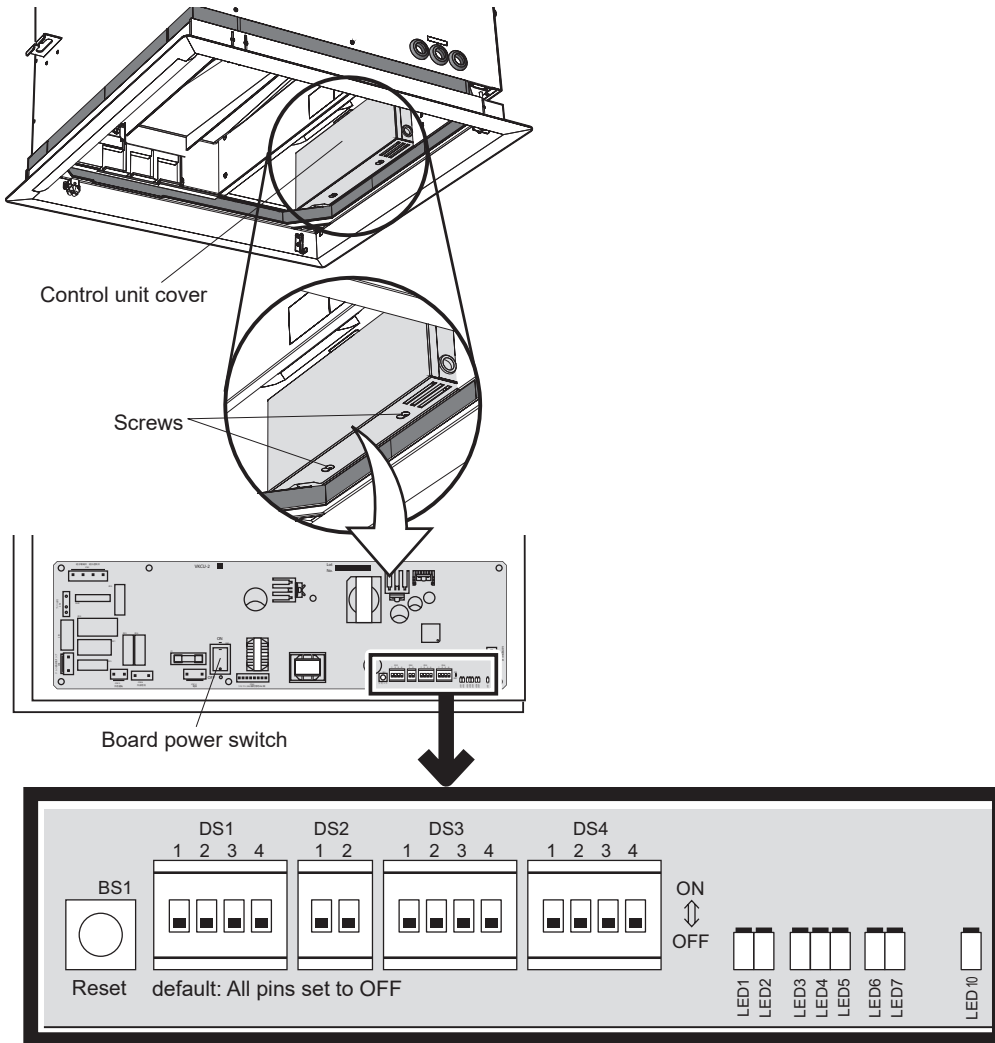

Figure 5: DIP switch location (cover removed)
2. Adjust the DIP Switch DS1 settings on the humidifier. Refer to Table 4 on page 14. The DIP switch can be found on the control unit (refer to Figure 5 on page 12).